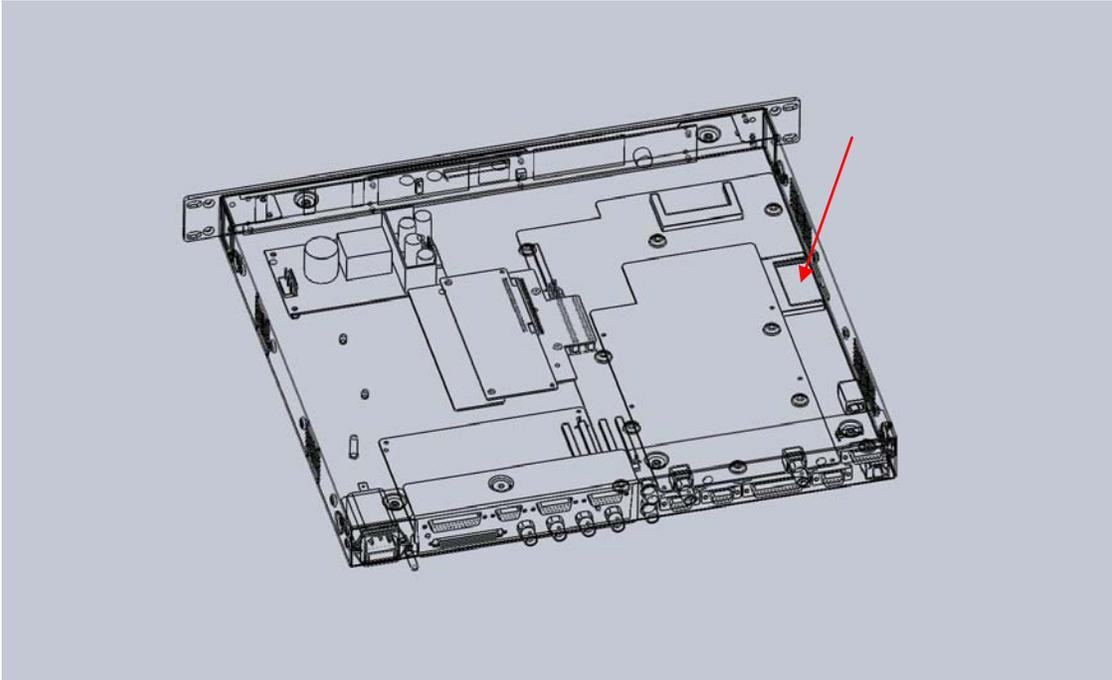

Figure 4
1. Update firmware by replacing Compact Flash Card located at the side of the modem as shown by the blue arrow in Figure 4 or update firmware by downloading the current revision from the website.